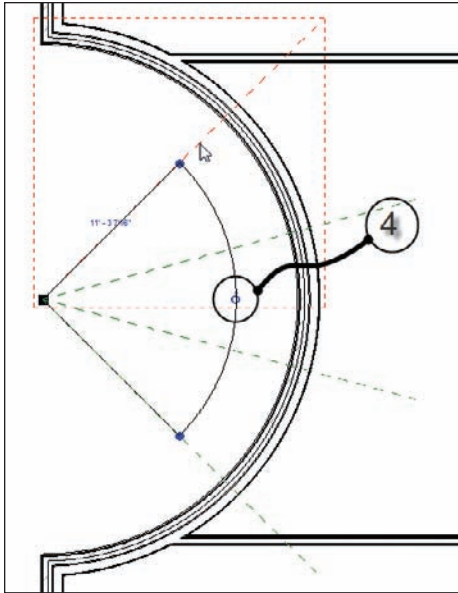

FIGURE 4.15 After the array is created, select one of the arrayed members. Notice you can change the count.
11. Click (left-click) off into another part of the view. This will establish the array. You should have four reference planes at this point, similar to Figure 4.15.
12. Select (left-click) one of the reference planes. You will see a large dashed box surrounding the reference plane. You will also see a temporary arc dimension with a blue number 4 at the quadrant. It may be obscured by the arc, but it is there nonetheless (see Figure 4.15).